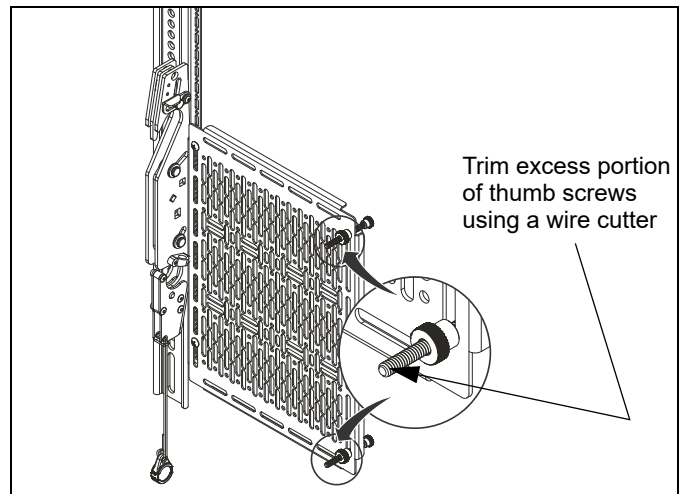

Figure 7
1. Loosen the two thumb screws (F) from the two thumb nuts (A) until the mounting plate (G) is parallel to the back of the display. (See Figure 7)
2. Use a wire cutter to trim off remaining excess portion of the two thumb screws (F). (See Figure 7)